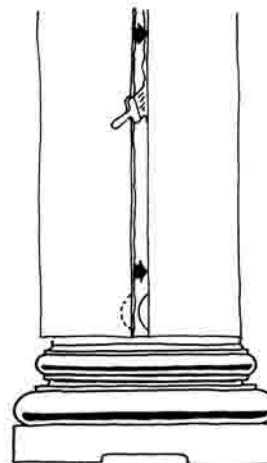

Figure 8-5
4. Thoroughly coat all four joining surfaces of the shaft with resorcinal adhesive (Fig. 8-5).